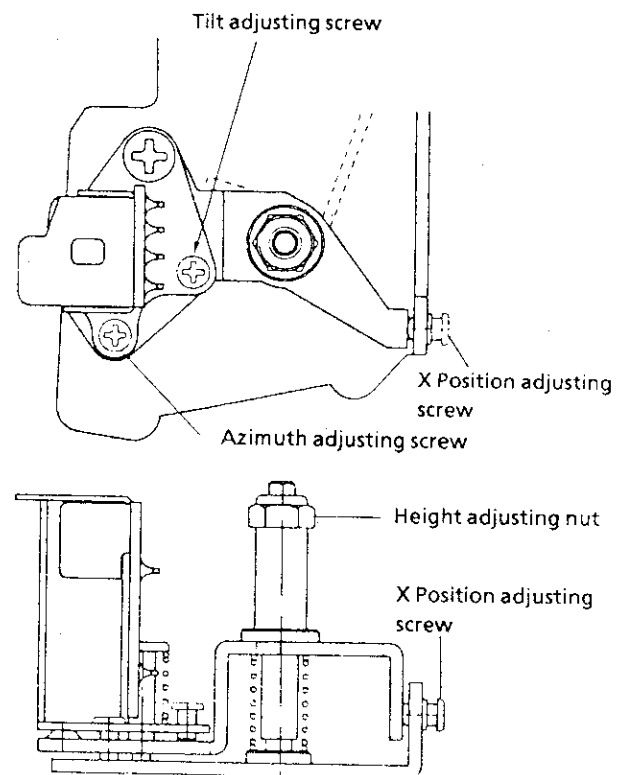

Figure. 2-15
- 3) Slowly turn the height adjusting nut with the box driver (N8645) to adjust the height so that audio output becomes maximum. (See Fig. 2-15)
- 2) Playback the monoscope part of alignment tape (VR1HPSV). Adjust X position adjusting screw with the Phillips screwdriver to the position in which RF waveform of L ch side becomes maximum. (See Fig. 2-15)